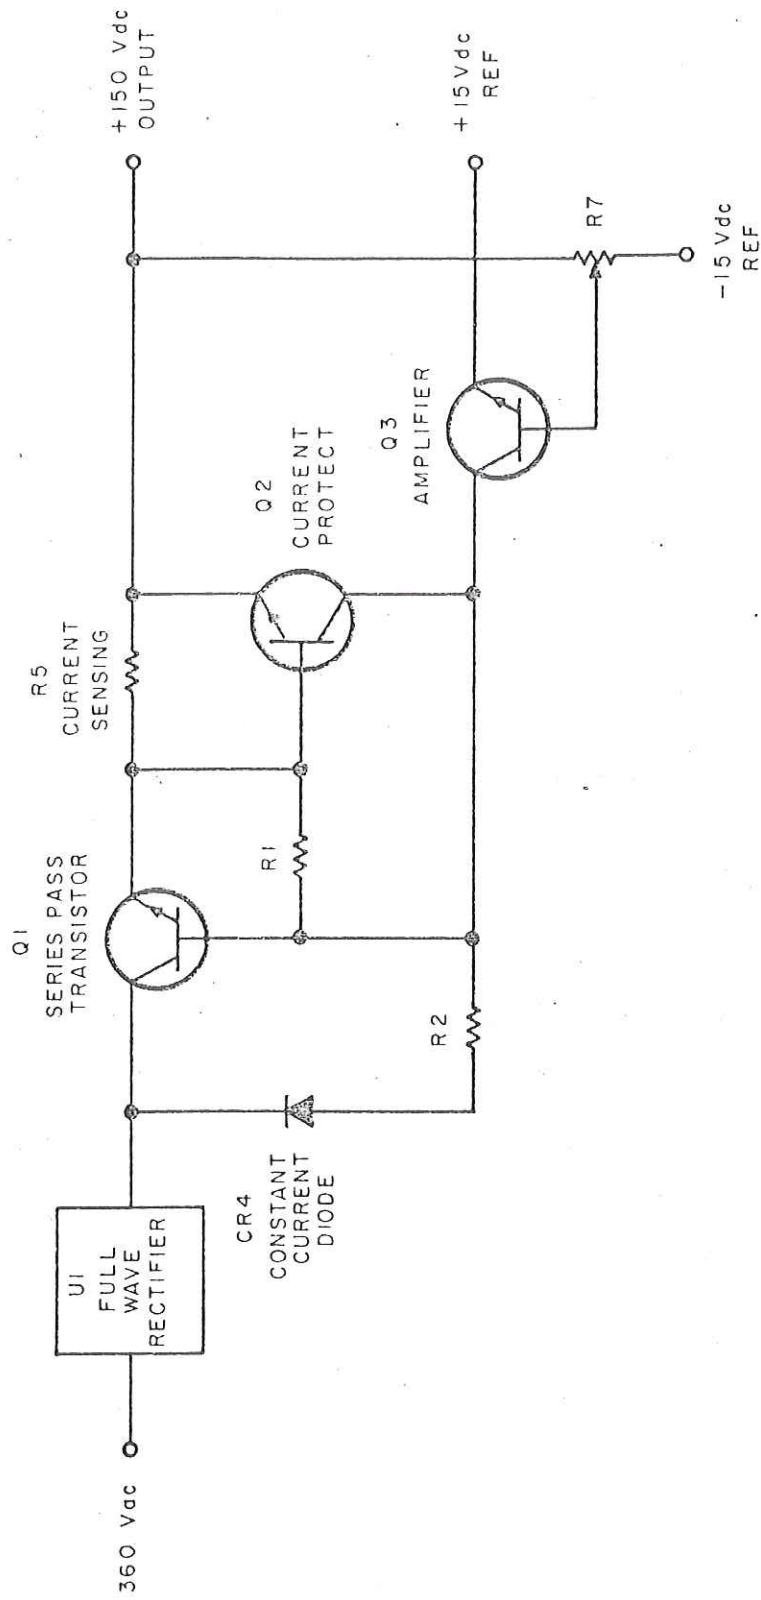

Figure 2-2. +150 V Regulator, Simplified Schematic Diagram
2.3.1 Type 76228 AFC/150 V Power Supply (A1). - The schematic diagram for the AFC/150 V power supply subassembly used in the MTF-100A and -102A is Figure 6-1. The power supply section consists of full wave rectifier, U1, followed by a series regulator. Figure 2-2 is a simplified schematic of the regulator circuitry. The base voltage for emitter follower Q1 is set by voltage-sensing amplifier Q3, constant current diode CR4, and biasing resistor R1. The amount of current flowing through R1 to the junction of Q3 and R2 varies to control the regulator output. For example, an increase in the +150 V output is felt by the base of Q3 which causes a corresponding increase in the collector current of Q3. Since the current through R2 and CR4 is constant, the current through R1 must decrease, causing a decrease in forward bias for series transistor Q1. The increased impedance of Q1 causes the output voltage to drop until the error signal at the base of Q3 is